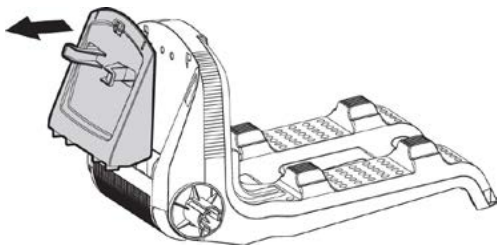

Figure 7
1. While holding the caddy chassis in place, pull the top of the communication cable holder straight out until it snaps loose. See **Figure 7**.